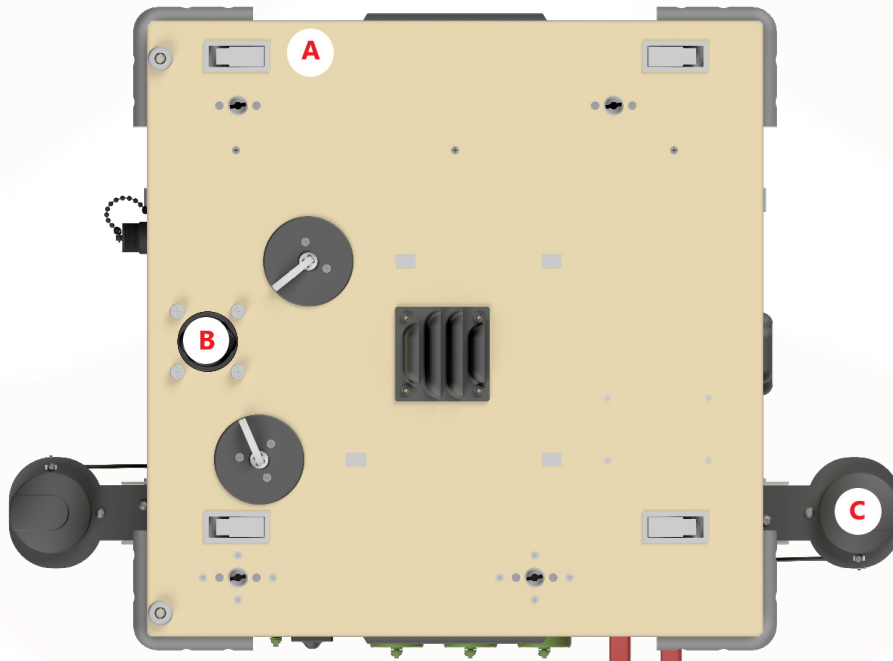

Figure 42: Fasteners on Tether Kit Cover
Four latches (**Figure 42, A**) and four captive fasteners (**Figure 42, B**) must be loosened to remove the Tether Kit cover. The fasteners encircle the tether opening, and the twist lock latches are located around the perimeter of the lid.
1. Remove the Tether Kit lid (**Figure 42**).